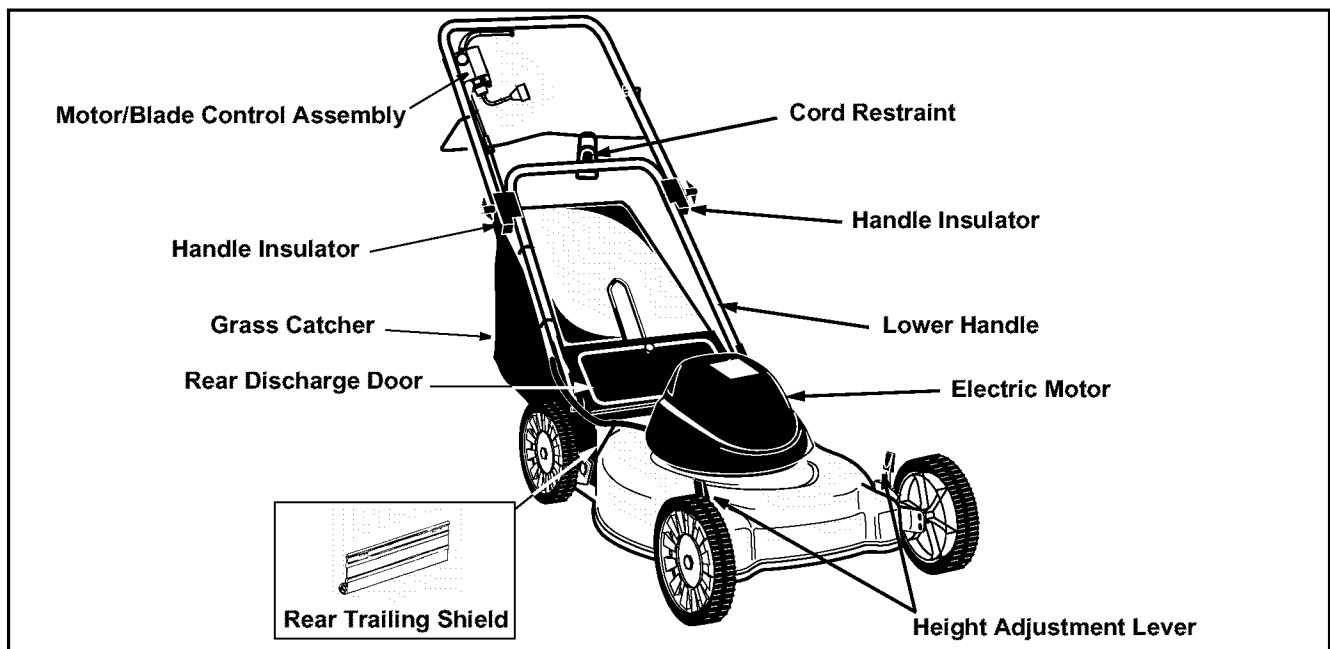

Figure 9
Read this operator's manual and safety rules before operating your lawn mower. Compare the illustration in Figure 9 with your lawn mower to familiarize yourself with the location of various controls and adjustments. Save this manual for future reference.
The motor/blade control is located on the upper handle of the mower. See Figure 9. The motor/blade control handle engages and disengages the motor and blade.
The rear trailing shield, attached between the rear wheels of your mower, is provided to minimize the possibility of objects being thrown at the operator from the rear of the mower. See Figure 9.
- Keep the cord restraint as close to the motor/blade control as possible. See Figure 9.